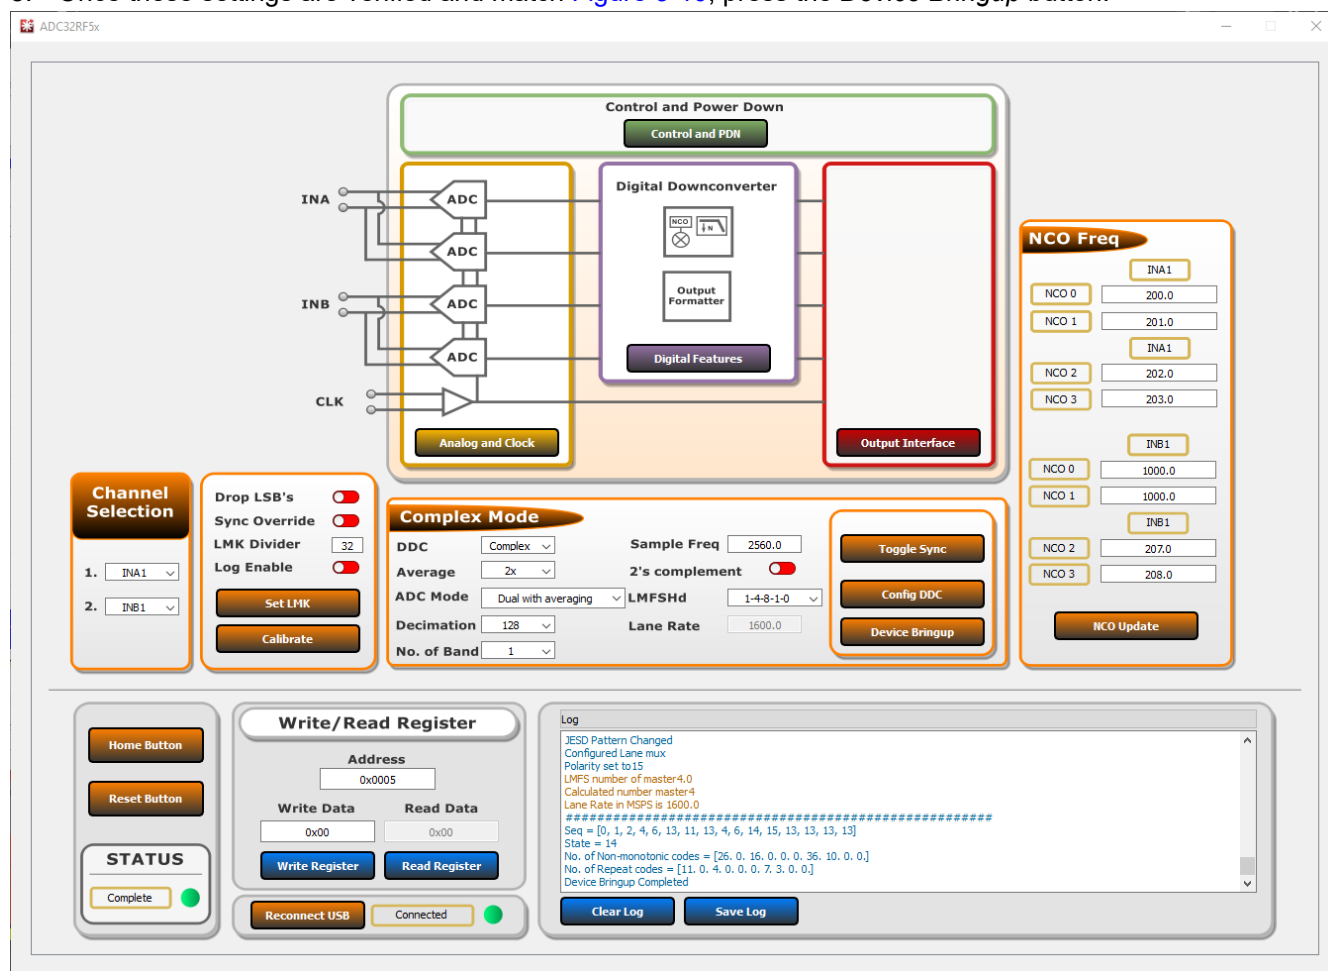

Figure 3-10. ADC32RF5xEVM GUI, 128x Complex Decimation, 1GHz NCO
8. Once these settings are verified and match Figure 3-10, press the *Device Bringup* button.